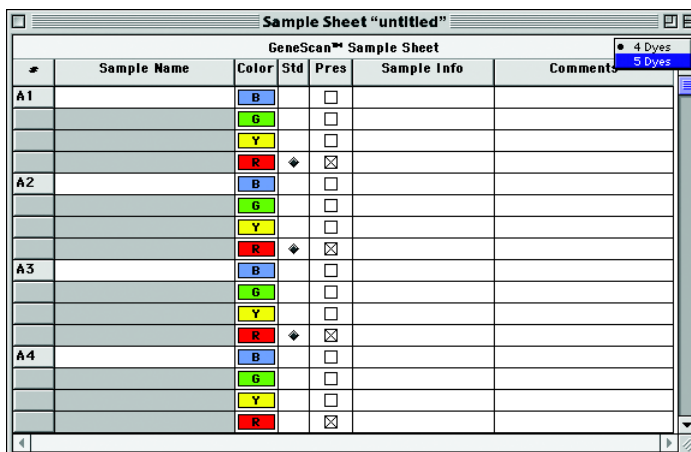

Figure 5-5 Sample Sheet window
2. Click the icon corresponding to an appropriate GeneScan Sample Sheet configuration to open the Sample Sheet window as shown in Figure 5-5.